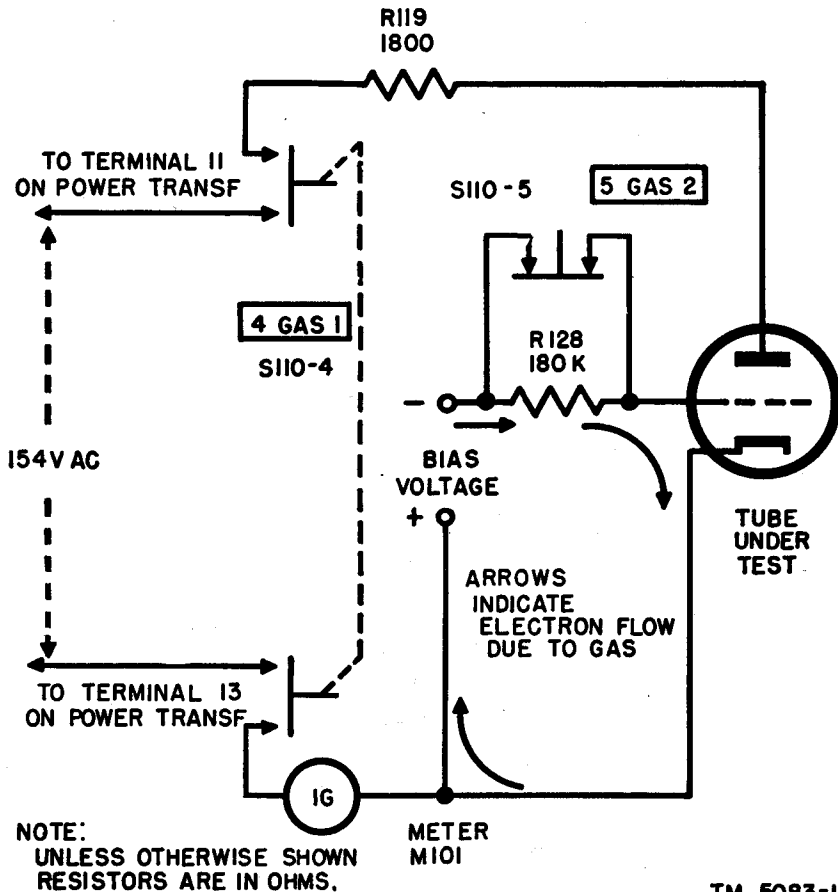

Figure 18. *Simplified gas test circuit.*
g. *Gas Test Circuit* (fig. 18).
- (1) Press 4—GAS 1 push button. A definite value of plate voltage and grid bias voltage is applied to the tube under test and causes a definite value of plate current to flow. This current is indicated on the meter (M101).
- (2) Press 5—GAS 2 push button. A 180,000-ohm resistor (R128) is inserted in the grid circuit. If grid current flows from the bias voltage source through the grid circuit to the cathode, due to gas in the tube, the current will develop a voltage drop across resistor R128. This voltage drop reduces the negative bias on the grid and causes a corresponding increase in the plate current which is measured by the meter (M101).